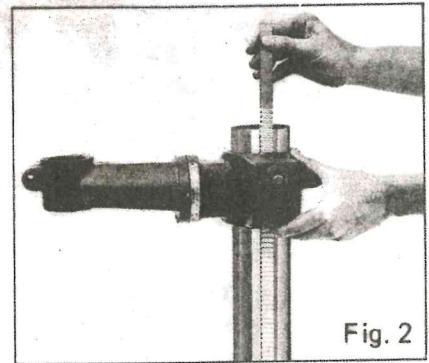

Fig. 2
- 2-2 Install table bracket together with rack. Fig. 2.